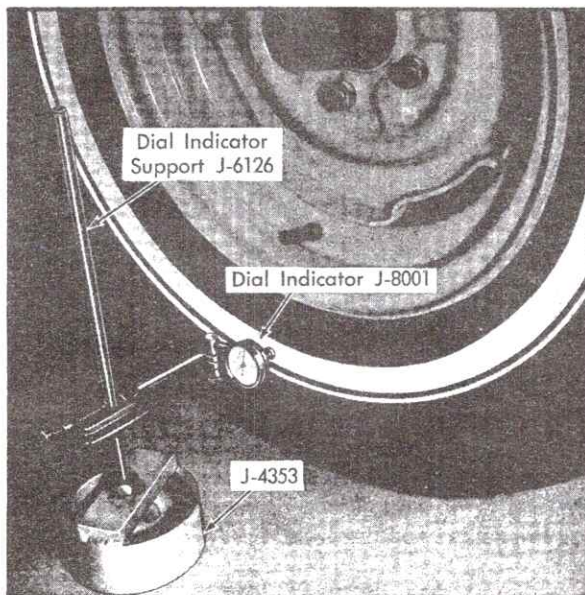

Fig. 10-7 Checking Lateral Runout At Sidewall
Use Dial Indicator, J-8001, for measuring wheel runout. Provide a stand similar to the one shown in Fig. 10-7 for supporting the dial indicator. This stand was made with Dial Indicator Support, J-6126, and part of Clutch Piston Actuator Set, J-4353.
2. For checking total lateral runout at sidewall, position knob of Dial Indicator, J-8001, just above or below buffing rib on tire sidewall, Fig. 10-7. Set indicator at zero.